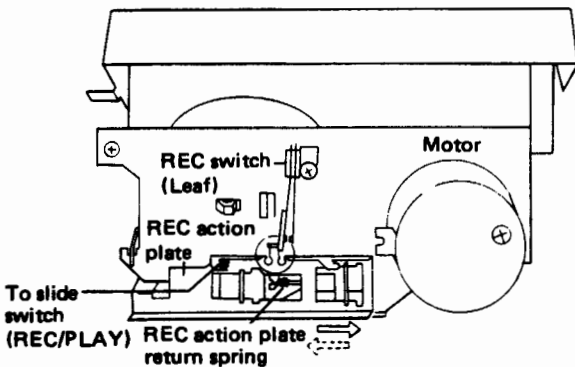

Fig. 15-7 STOP→REC operation
1. When the REC button is pressed, the cam on the REC button moves the REC connection arm in the ① direction, gear lever R in the ② direction, and gear lever A in the ③ direction.
2. With the movement of gear lever R, stopper A on cam gear R is released from gear lever R, cam gear forced down by the pressure exerted by trigger spring R, and starts rotating in the ④ direction. It then commences to mesh with the capstan gear.
4. At this time, the shape of the cam on cam gear R causes the REC action lever to move in the ⑤ direction, pressing on the REC action plate. (Fig. 15-7).